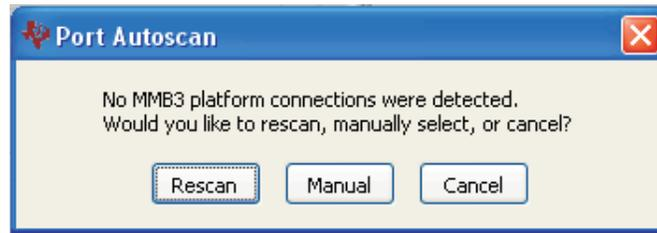

Figure 9. EVM COM Port Autoscan Prompt Window
- If the plug-in cannot connect to the EVM, you will see a window as shown in Figure 9. This message indicates that the autoscan process for an available COM port has failed, giving you several different options.